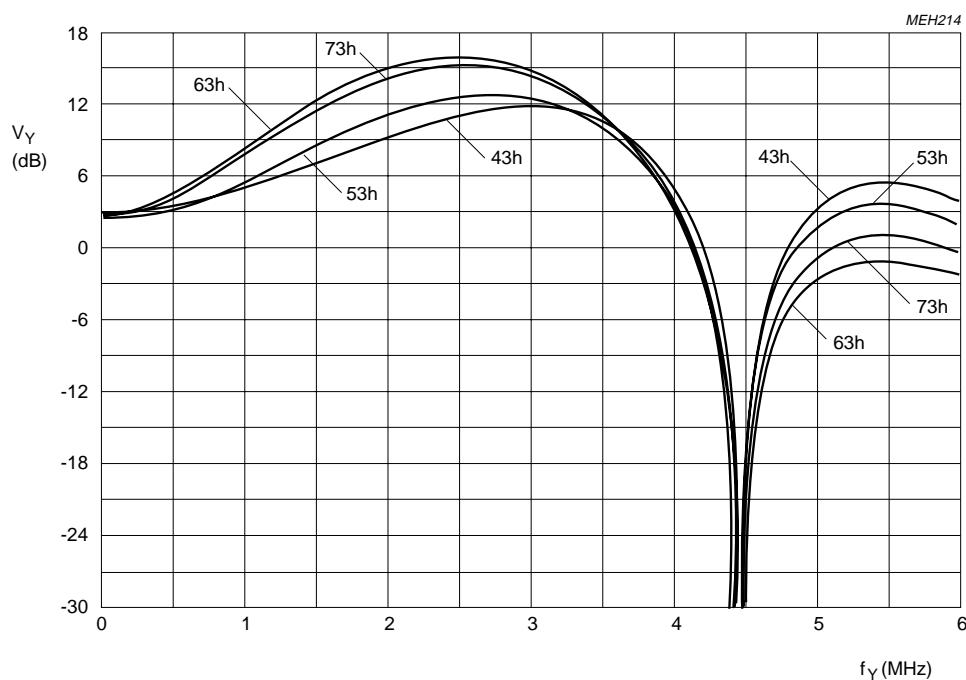

Fig.16 Luminance control in **50 Hz / CVBS** mode controllable by subaddress byte 06; pre-filter on and coring off; maximum aperture bandpass filter characteristic.
1. dependent on application (Figures 16 to 25)